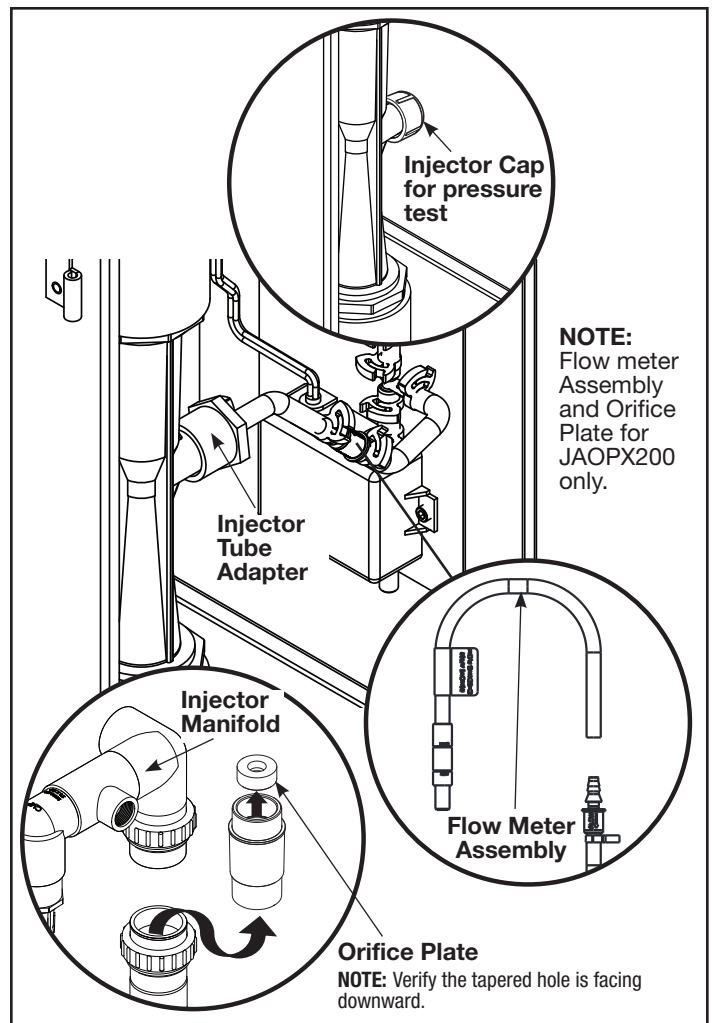

Figure 6. Jandy AOP Flow and Pressure Testing
If a pressure test is required, it should be performed prior to installing the check valve assembly tubing connections. See Figure 6.
1. Temporarily disconnect tubing from inlet side of the check valve and attach included flow meter assembly. See Figure 6.